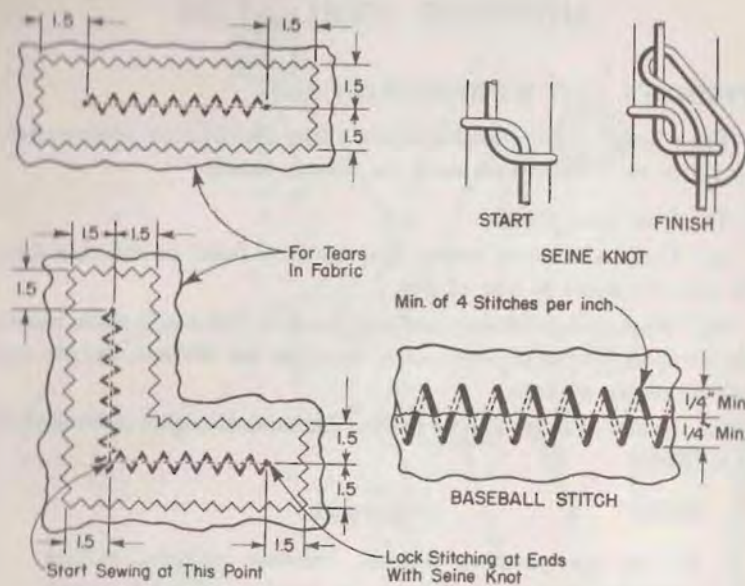

Figure 18—Fabric Repair Methods
7. Repair fabric tears by sewing and applying a patch over the mended area. Do not apply a cemented patch over an unsewn tear longer than 6 inches. Mend a tear as follows (refer to figure 18):